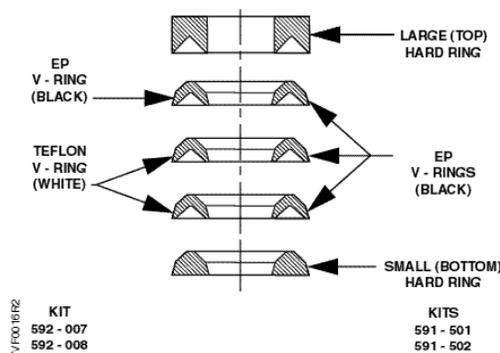
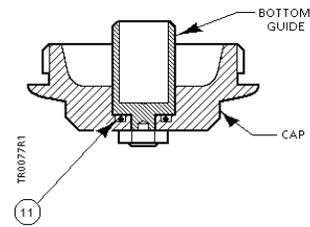

Figure 3. V-ring, Packing Set.
Figure 4. Valve Cap.
VF591ST valves 1-1/2-inch (38 mm) and two-inch (51 mm) sizes normally closed, use the O-ring (item 11, Figure 4) included in kits 591-502 and 592-008.
9. Starting with the small hard ring, slide the rings over the stem in the order shown in Figure 3. Carefully push each ring into the packing chamber.
10. Place gland spacer (item 2) on top of bonnet.
11. Thread the packing gland assembly (item 1) into the bonnet. Finger tighten the gland assembly against the spacer. **Do not pack bonnet packing chamber with grease.**
12. On valves with an O-ring seal located on the bottom guide (item 11, Figure 4), remove the old seal and replace it with a new one.
13. Reassemble the valve body and attach the actuator to it (item 8).
Table 5. Packing Kit Parts List (See Figures 4, 5 and Notes).